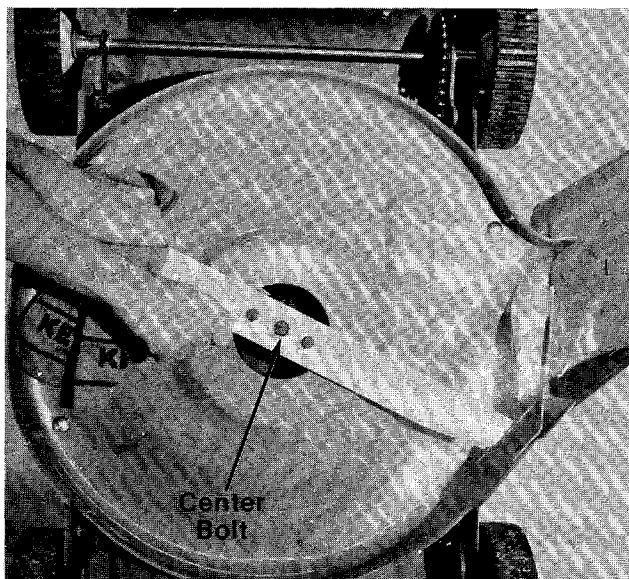

FIGURE 16.
3. Remove the center bolt on the blade and slide off the blade and adapter. See figure 16.